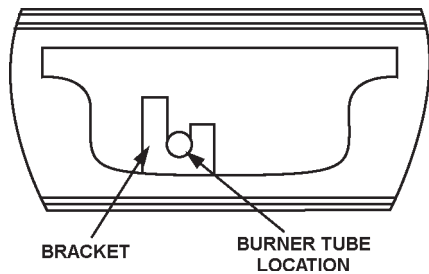

FIGURE 27.
22. Reinstall the burner assembly through the door opening being careful not to damage the door gasket on the studs. Position end of burner tube inside bracket as shown in Figure 27.